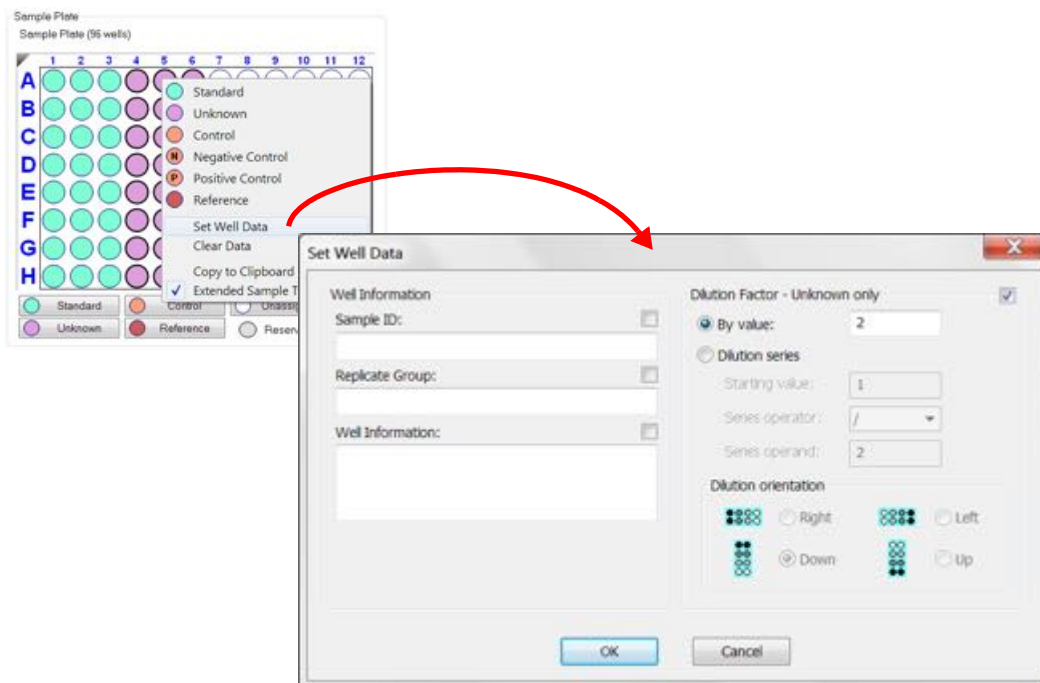

Figure 5-10: Sample Plate Map—Setting a Dilution Factor or a Serial Dilution
The **Set Well Data** dialog box displays (see Figure 5-10).
1. In the **Set Well Data** dialog box (see Figure 5-10), select the **By Value** option.
1. In the **Set Well Data** dialog box (see Figure 5-10), select the **Dilution series** option.
1. In the **Set Well Data** dialog box (see Figure 5-10), double-click a cell in the **Dilution Factor** column for the desired unknown.